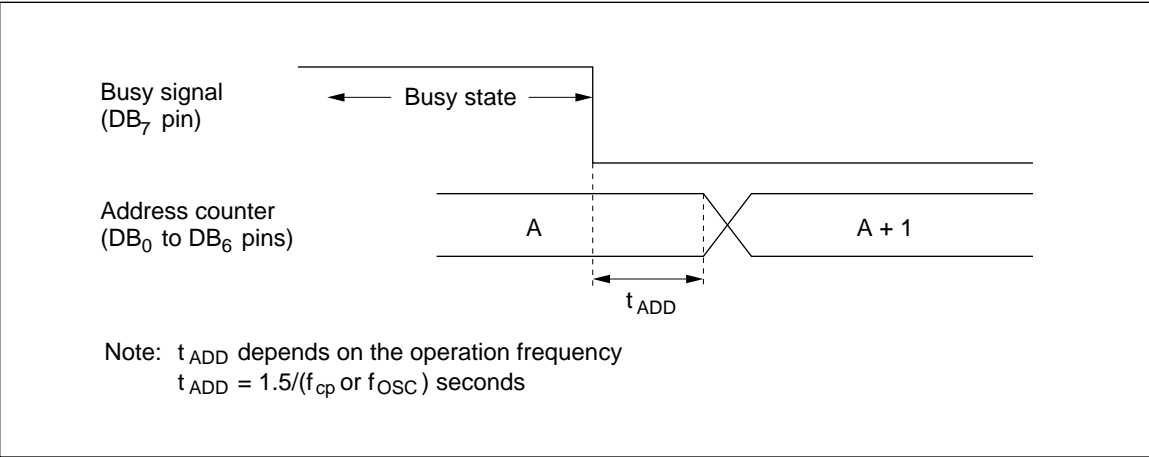

Figure 13 Address Counter Update
* After execution of the CG RAM/DD RAM data write or read instruction, the RAM address counter is incremented or decremented by 1. The RAM address counter is updated after the busy flag turns off. In figure 13, t_{ADD} is the time elapsed after the busy flag turns off until the address counter is updated.